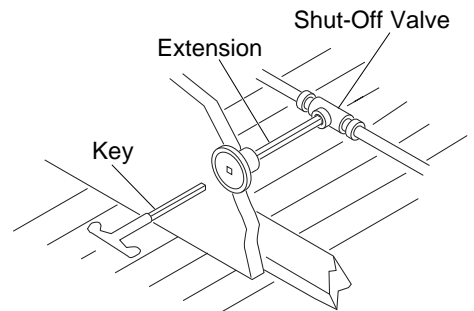

Figure 13 - Typical Exterior Wall Gas Shut-Off Installation
A manual shutoff valve, AGA certified and complying with the *National Fuel Gas code, ANS Z223.1-latest edition*, must be included within (6') six feet of the vent-free firebox gas supply system. It may be convenient to install the gas shutoff outside the vent-free firebox enclosure where it can be accessed with a key through a wall as shown in Figure 13. Depending on the type of installation, some local codes may require you to install two (2) manual shutoff valves independently accessible from both rooms. Check your local codes for applicable installation requirements.